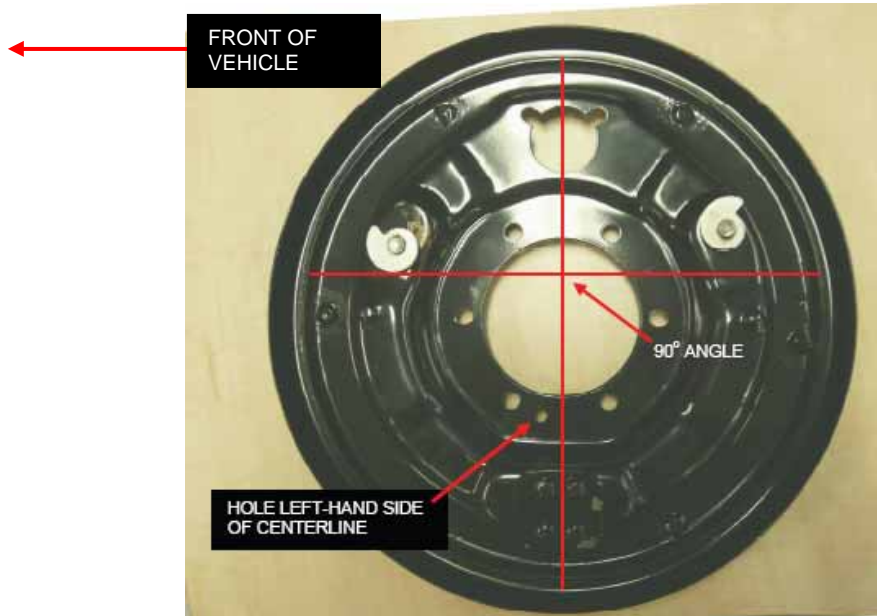

Figure 2 Left-hand Backing Plate
- b. **Left-hand.** The rear (right, as shown) brake adjuster is higher than the front (left, as shown) adjuster (Figure 2). On most backing plates, there is a hole to the left of the centre line near the axle mounting holes.